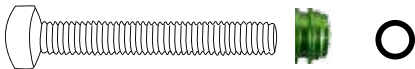

Fig 10
- Screw the Aluminum end cap onto the nylon screw. (Fig 10)